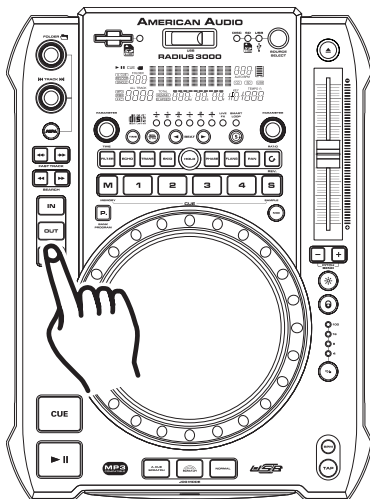

Figure 20
Please note: Only the ending point of the loop may be edited. You may make your loop shorter or longer. Before you can edit your seamless loop you obviously must first create a seamless loop to edit. If you haven't created a SEAMLESS LOOP, follow the instructions in step 10 to create a loop. If a SEAMLESS LOOP has already been created, press the *RELOOP BUTTON (15)* to activate your SEAMLESS LOOP (Figure 20) if it is not already activated. To edit your seamless loop's ending point: